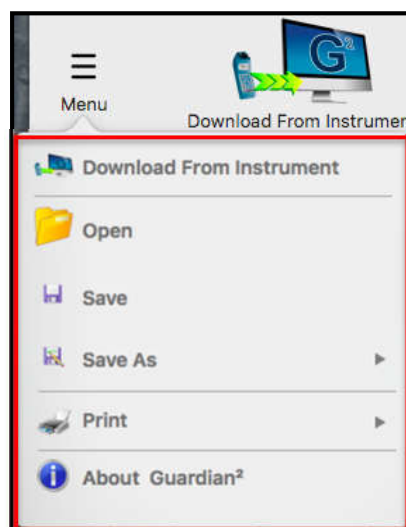

Figure 10
- Menu (Figure 10)
- This menu contains commands for downloading or appending new data, opening saved .mlcx files, saving, exporting (Save As) and printing. (Figure 10).